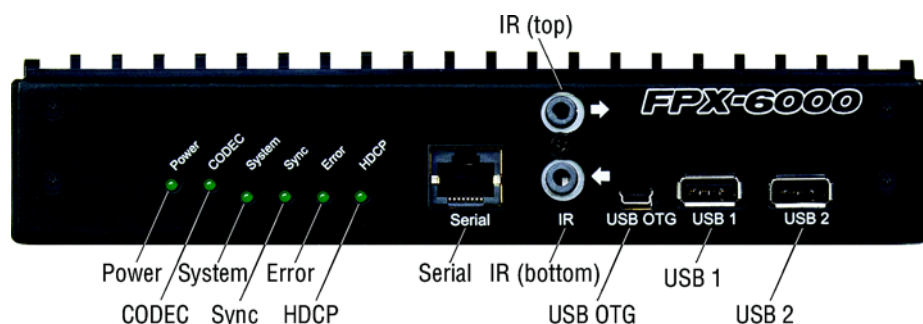

Figure 9. Front panel ports and LEDs (same for Transmitter and Receiver models)
1. Install cables on the front panel of the FPX6000T (see **figure 9**) as follows:
1. Install cables on the front panel of the FPX6000R (see **figure 9** on page 10) as follows:
3. After at least one minute for the device to power up and initialize, verify that the green Power LED (see **figure 9** on page 10) is lit. Refer to **table 1** for LED light indications.